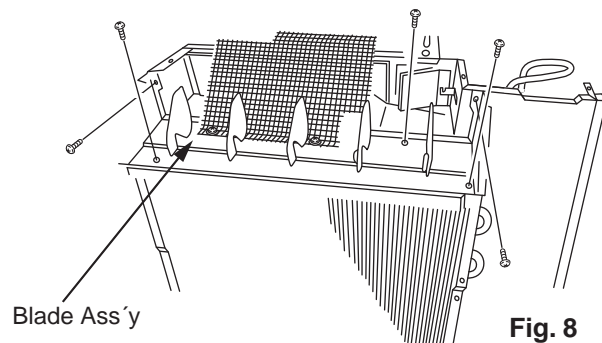

Fig. 8
(2) Remove the 5 screws holding the blade Ass'y. (Fig. 8)